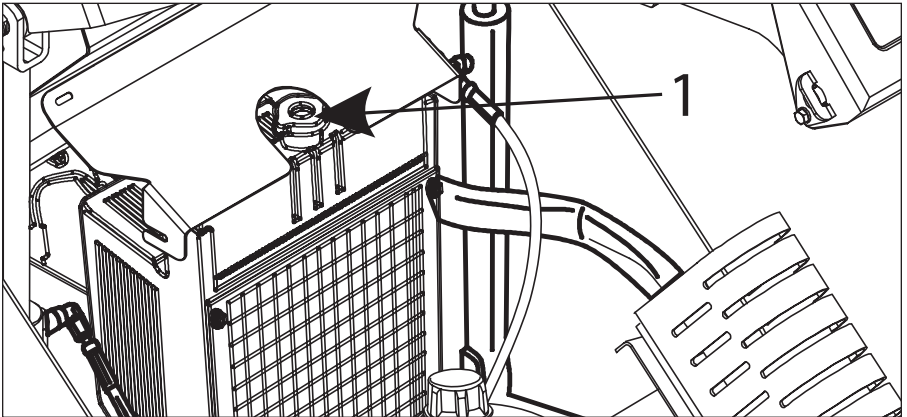

Figure 4-4 Filler Cap
- Remove radiator cap (Item 1, **Figure 4-4**) and check the radiator fluid level. The proper coolant level will be to the bottom of filler neck.